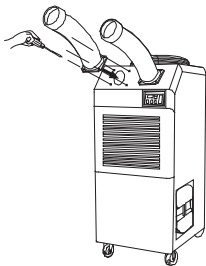

Figure 12
2. Place the cool air outlet hose(s) on the front top of the unit as shown in Figure 12.